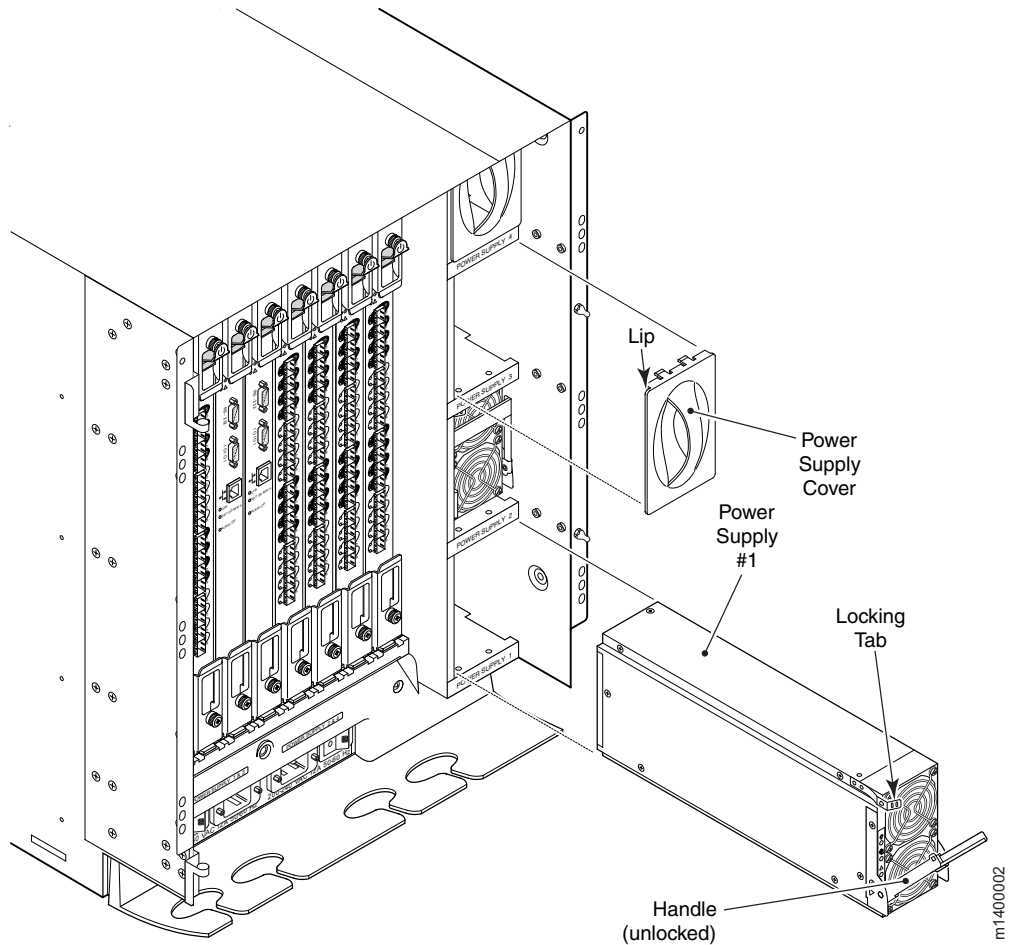

Figure 36. Power supply removal and replacement
2. Push the locking tab in toward the power supply, then pull the handle out and down. See Figure 36 on page 74